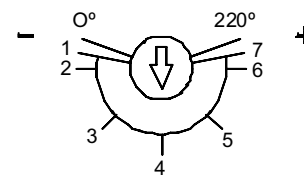

Fig. 15
- Regulate the doser to provide the amount of detergent indicated by the manufacturer. The range of the doser is indicated in Fig. 15.